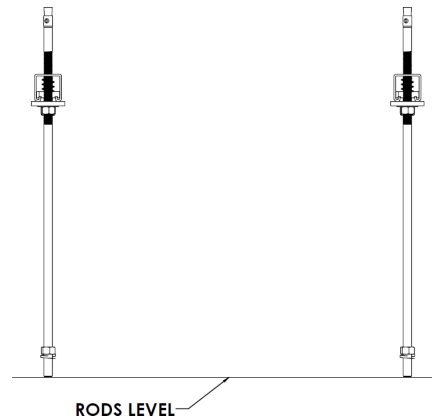

Figure 255: **Bottoms of All Threaded Rods Level to Each Other**
- Make sure the bottoms of all threaded rods are level to each other (Figure 255).